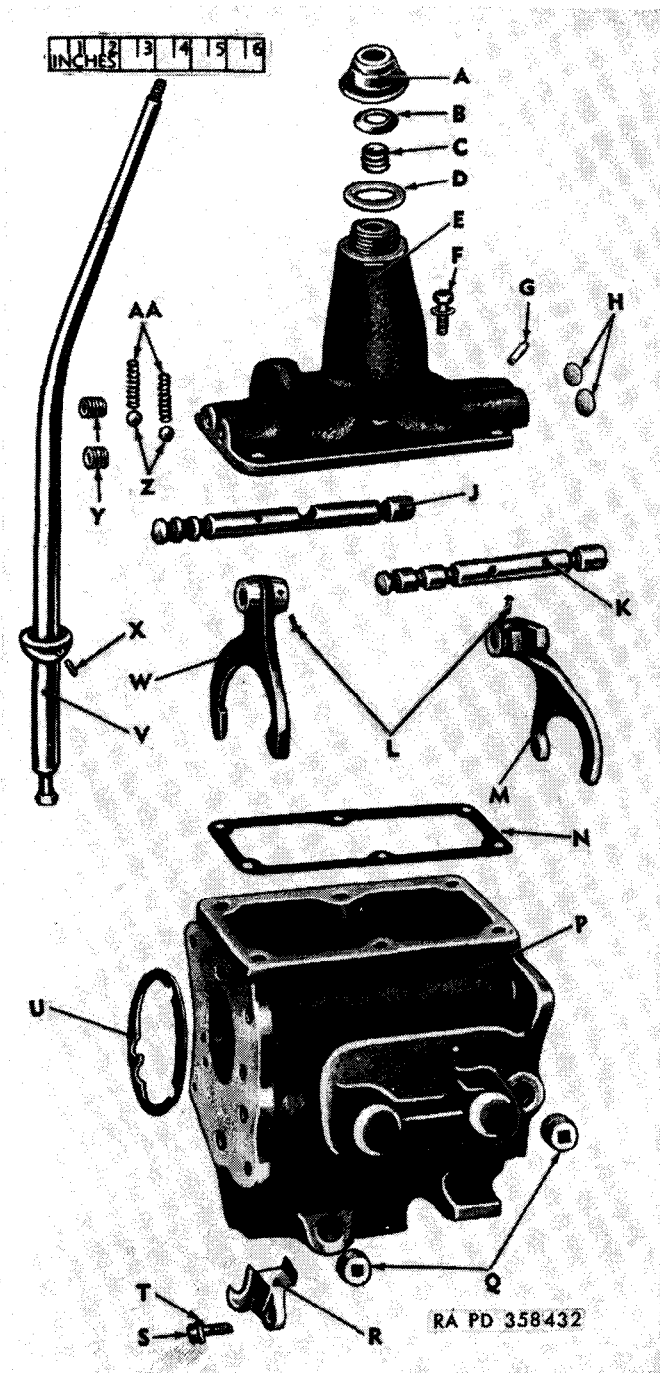

Figure 26. Transmission case and gearshift control housing—exploded view.
d. *Disassemble Gearshift Control Housing* (fig. 26). Remove shifter fork pins (L) from the second and high speed shifter fork (M) and the low and reverse speed shifter fork (W). Remove the two $\frac{3}{8}$ -inch countersunk head pipe plugs (Y). Slide the second and high speed gears shifter shaft (J) from gearshift control housing and remove low and reverse speed shifter fork (W). Remove poppet ball (Z) and gearshift poppet ball spring (AA). Slide the low and reverse speed gears shifter shaft (K) from the gearshift control housing; remove second and high speed shifter fork (M). Remove poppet ball (Z) and poppet ball spring (AA). Remove gearshift rail hole expansion plugs (H).